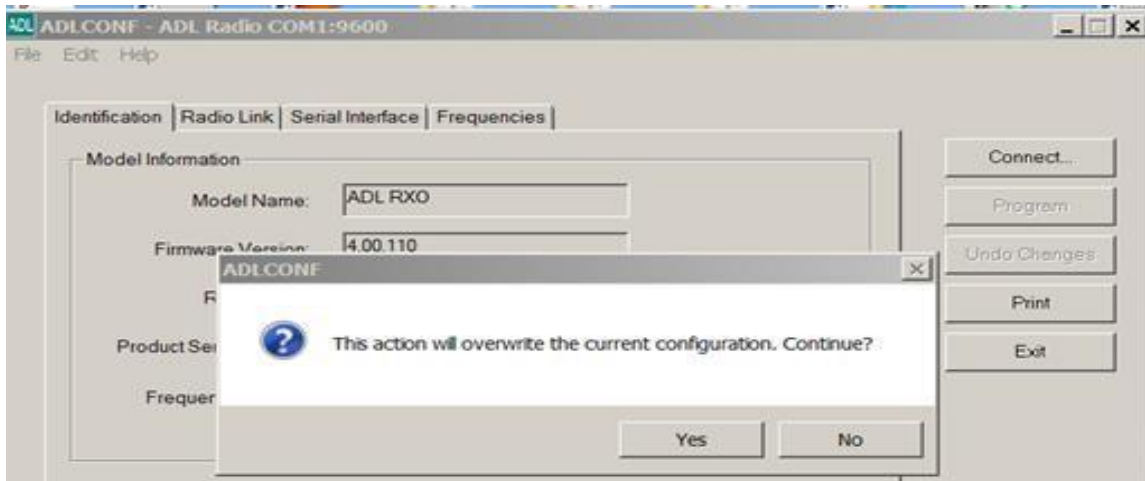

Figure 11: Action Overwrite Window
- 9) Once again, another window with the text “*This action will overwrite the current configuration. Continue?*” will pop up. Click **YES** to continue, see Figure 11 (Page 25).